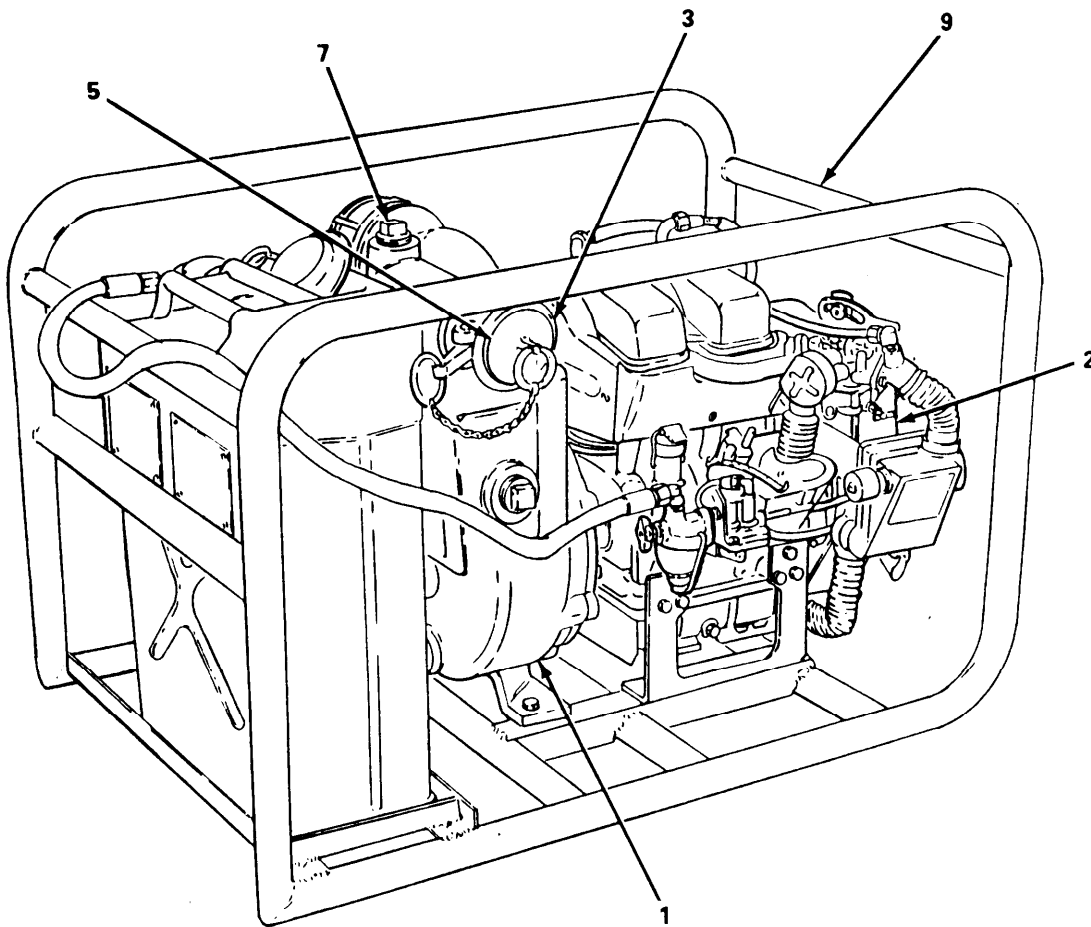

Figure 1-2. Pump/Engine Assembly (Sheet 1 of 2).
b. Pump/Engine Frame and Components (see figure 1-2) The pump/engine assembly is mounted in a welded tubular aluminum frame (9). The fuel tank (10) is a standard military 5-gallon (18.925-liter) can (jerry can). It is secured to the frame by a fabric webbing strap (11).
c. Grounding Cable. The pump is connected to a common ground rod through 8-foot (243.84-cm) ground cable (12) attached to the frame.